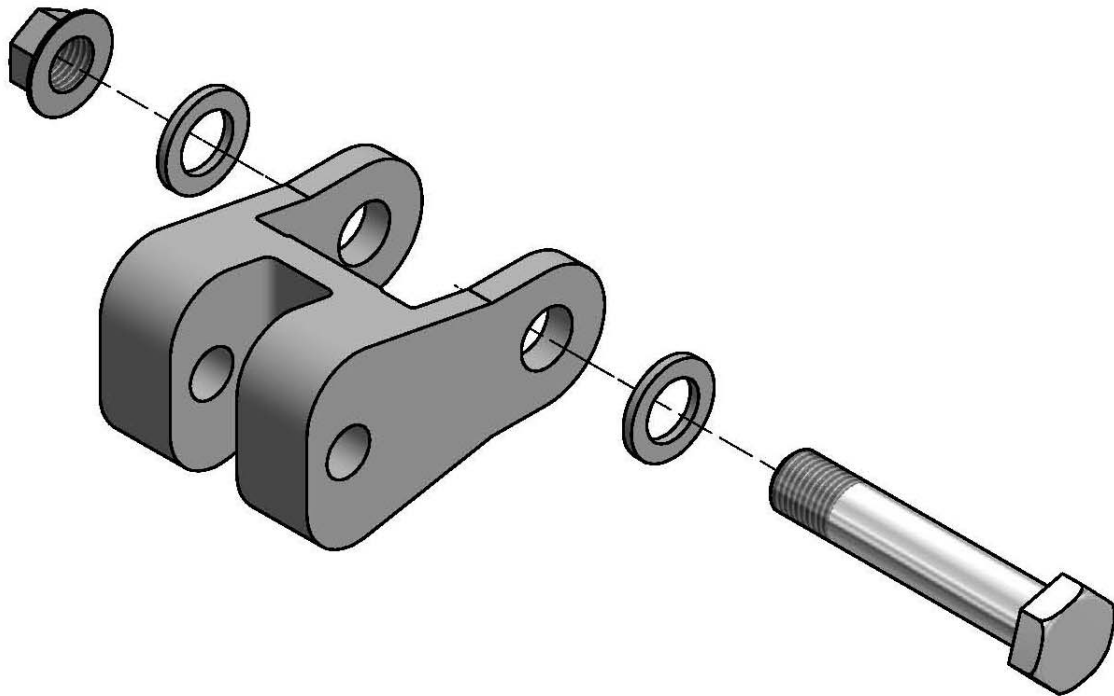

Figure 7: Keeperless Hardware Installation
2. Install Items 4, 6, 8, and 10 (on Sheet 1) in the arrangement shown in Figure 7.